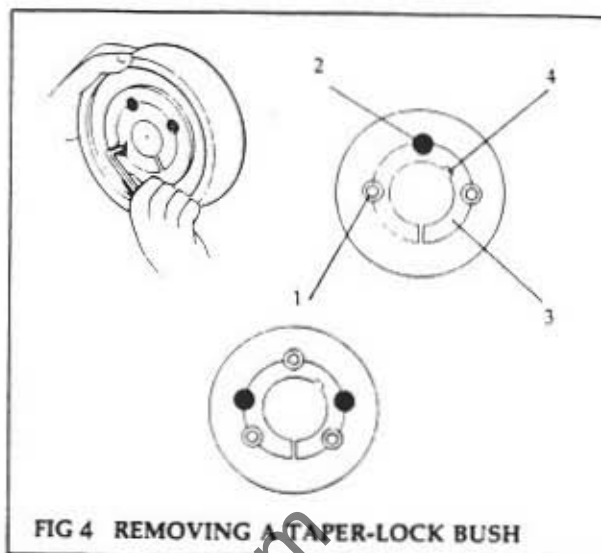

FIG 4 REMOVING A TAPER-LOCK BUSH
It may at times be necessary to remove a drive pulley. The motor shaft pulleys are fitted with Taper-Lock bushes (see Fig 4), cutterblock spindles are fitted with parallel keys.
Removal and Refit Drive Pulleys (Fig 4)
- (1) Unscrew setscrews (1) and (7) and remove cover from drive.
- (2) Remove drive pulleys as items A, B and C above.
- (3) Unscrew hexagon head screws securing motor to bedplate and remove motor.
- (4) Remove intermediate drive as for **Remove and Refit Drive Pulleys (Fig 4)**.